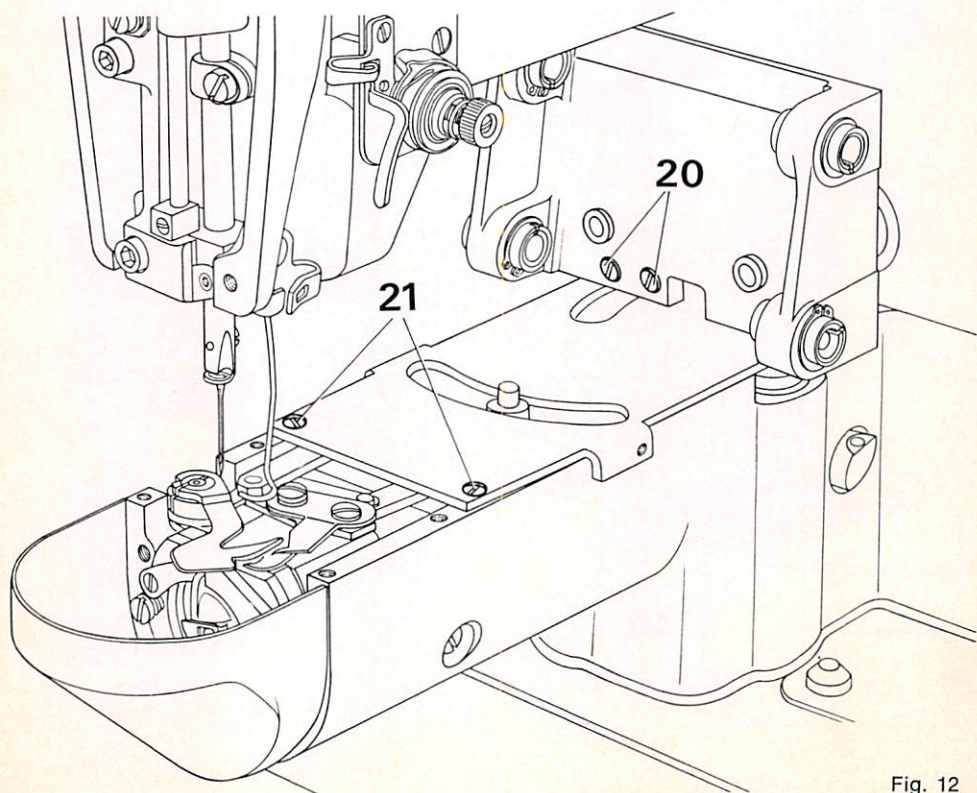

Fig. 12
**12. Dismantling certain parts prior to the following adjustments (Fig. 12)**